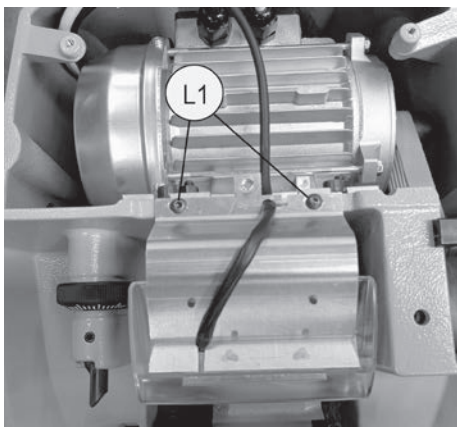

Fig. 41
- 1) Remove the two pads (Fig. 41)).
- 6) Loosen the 2 lamp fixing screws (L1) and remove (Fig. 41).
- 3) Loosen the 2 lamp fixing screws (L1) and remove (Fig. 41).